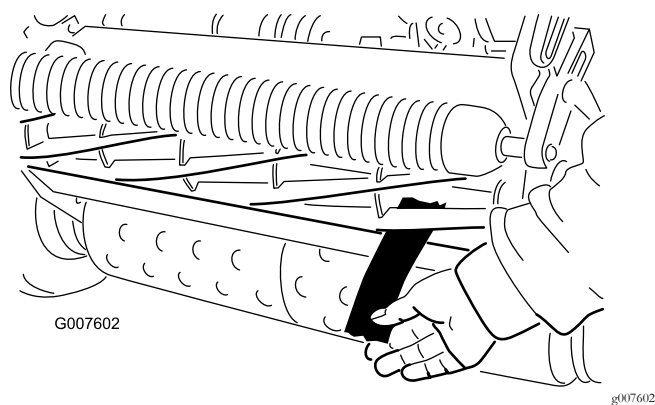

Figure 47
12. Test the cutting performance by inserting a long strip of cutting performance paper between the reel and bedknife, perpendicular to the bedknife (Figure 47). Slowly rotate the reel forward; it should cut paper.